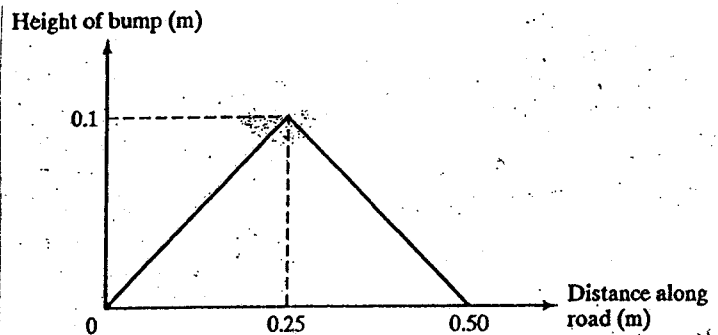

FIGURE 4.42
4.25 An automobile, having a mass of 1000 kg, runs over a road bump of the shape shown in Fig. 4.42. The speed of the automobile is 50 km/hr. If the undamped natural period of vibration in the vertical direction is 1.0 sec, find the response of the car by assuming it as a single degree of freedom undamped system vibrating in the vertical direction.